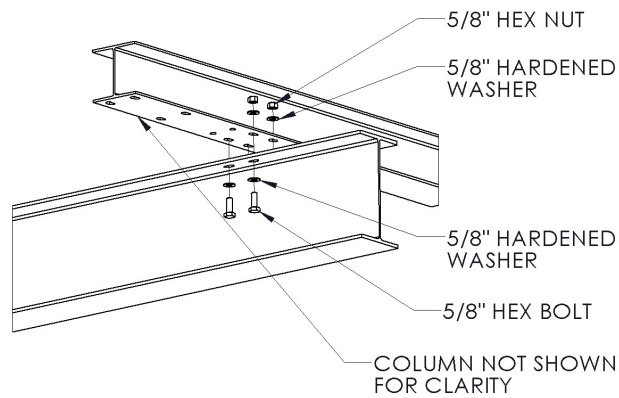

Figure 2: Runway to header connection
2. Lift runway into position and attach the runway beam to the header using 5/8" bolts, flat washers, and hex nuts. (See figure 2)